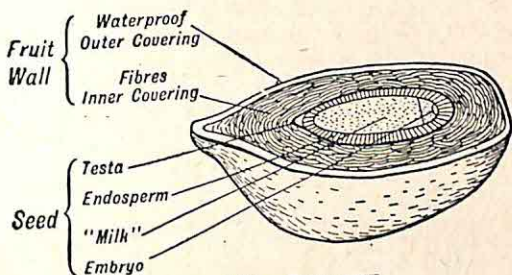

FIG. 155.—COCO-NUT.
*Dispersal by water* is frequent in rushes and pondweeds. Seeds or fruits of these are often made buoyant by air cavities. The thick fibrous outer layers of the coco-nut (Fig. 155) have the same effect, and it is thought that trees growing on the muddy banks of streams may have originated from water-borne nuts